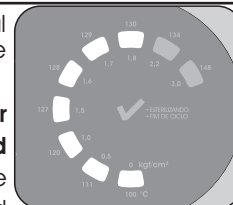

Fig. 12
- 1► Open the door of the autoclave, and, using the cup, pour the correct amount of **distilled water** inside the chamber, **until the water reaches the “water level” mark**, close the door, **press and hold**  until the LEDs begin to blink (about 7 seconds) as shown at Fig. 12. If the autoclave beeps **continuously** when pressing , it means the door was not correctly closed, open and close it again.
- 2► During heating, the LEDs indicated at Fig. 12 will blink. The entire process is automatically performed. At the end of the process, the  LED will indicate that the adjustment was successfully performed.